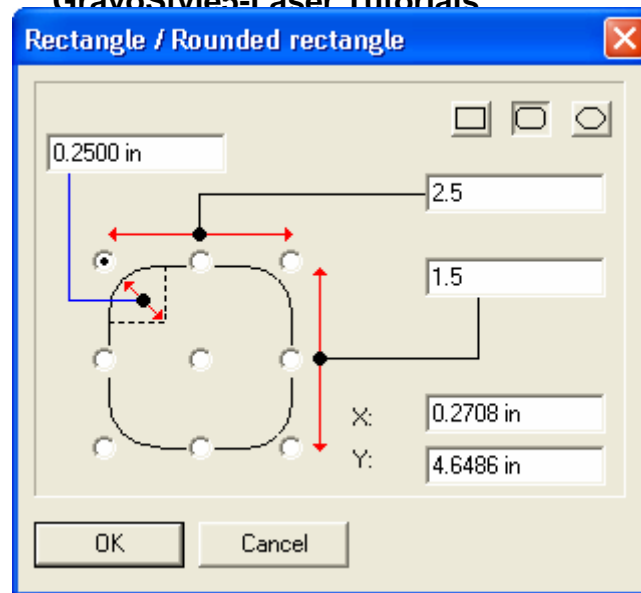

Figure 11-4 Specifying Rectangle Dimensions
- Start dragging the mouse cursor and press the **F2** key. When the precision dialog box opens, specify the width and height of the box at 2.5” and 1.5” respectively (Figure 11-4). Click on “OK” and the rectangle is drawn.